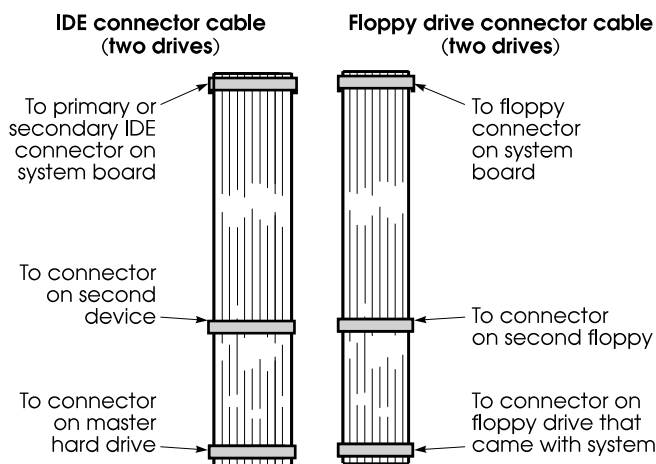

Figure 17. Drive Cables
6. Attach a cable (Figure 17) from the power supply to the drive, then attach a controller cable: